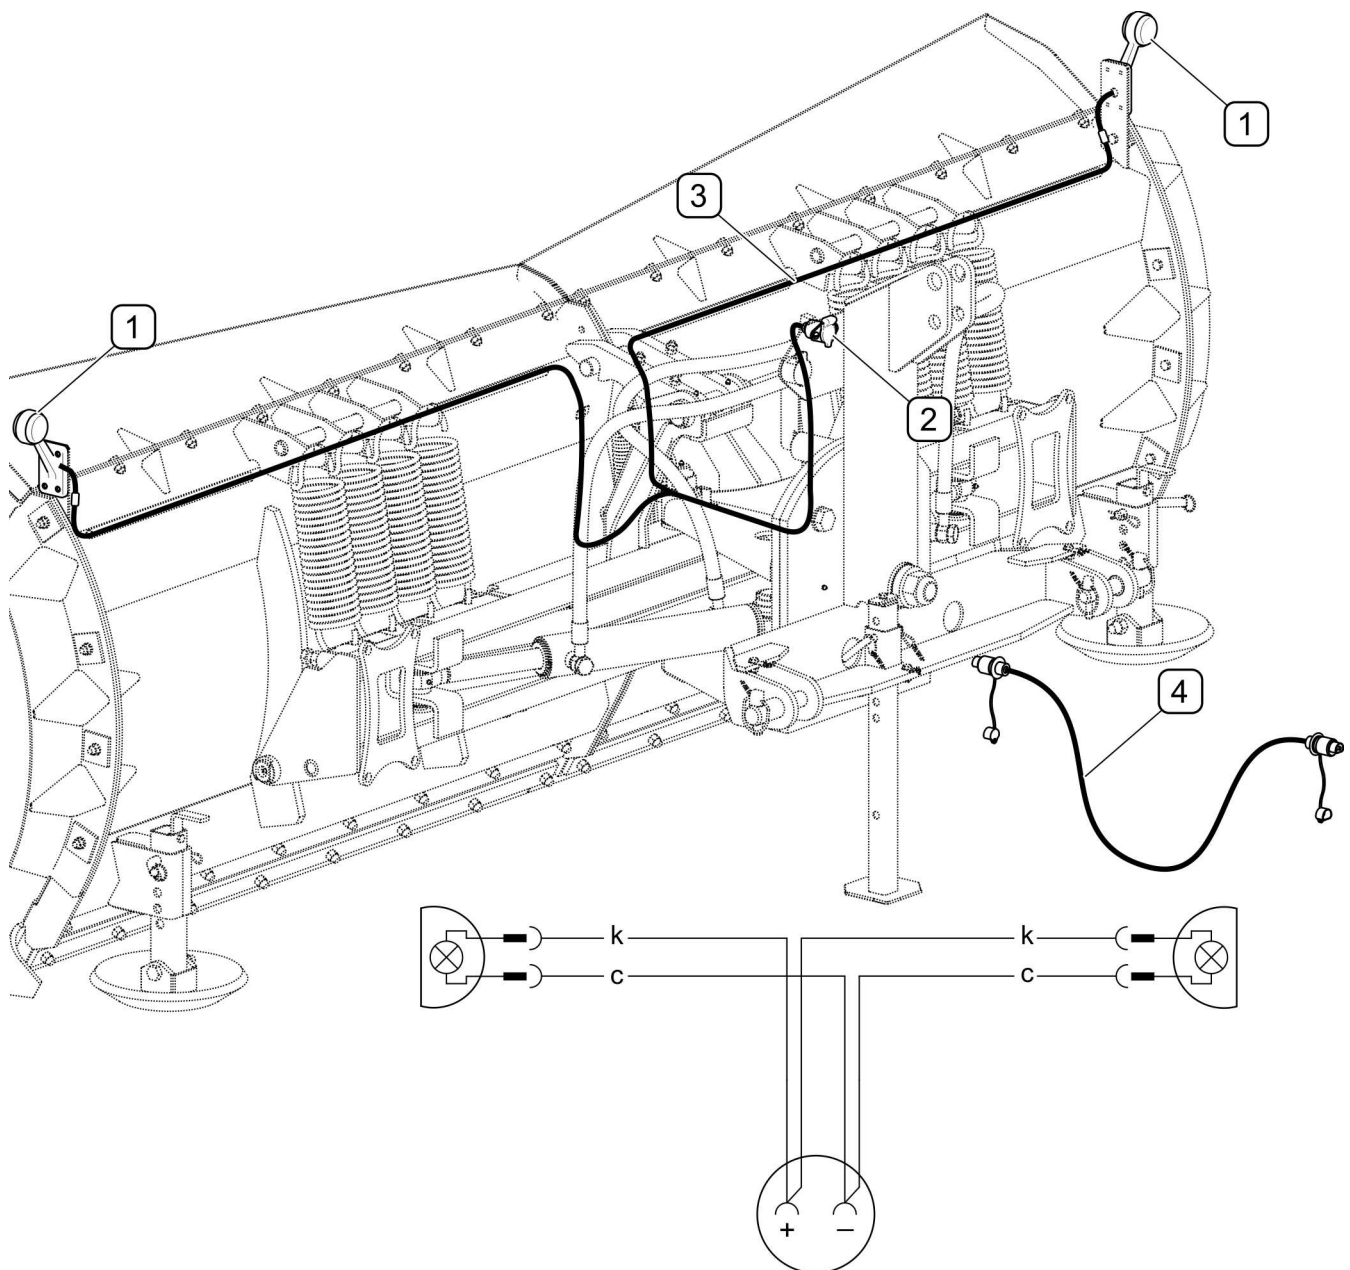

FIGURE 3.4 Electrical system components
(1) - clearance lamp, (2) - 3 pin socket, (3) - wiring harness, (4) - power cord, c- black; k-red
Plough clearance lamp electrical system (FIGURE 3.4) consists of two side clearance lamps (1) and wiring harness terminated with a 3-pin socket (2). Plough electrical system is connected to tractor (carrying vehicle) system using a cable connection (4). In the Pronar